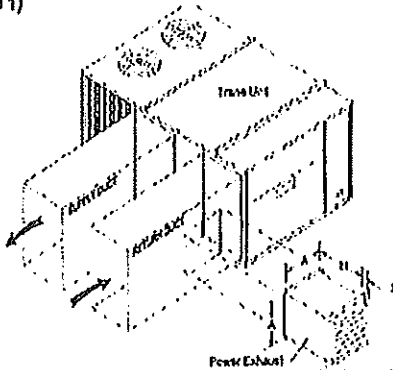

Figure 1: Horizontal Discharge Power Exhaust
5. For horizontal applications cut a hole in return air duct to match the I.D. of the exhaust fan assembly housing. (See figure 1)